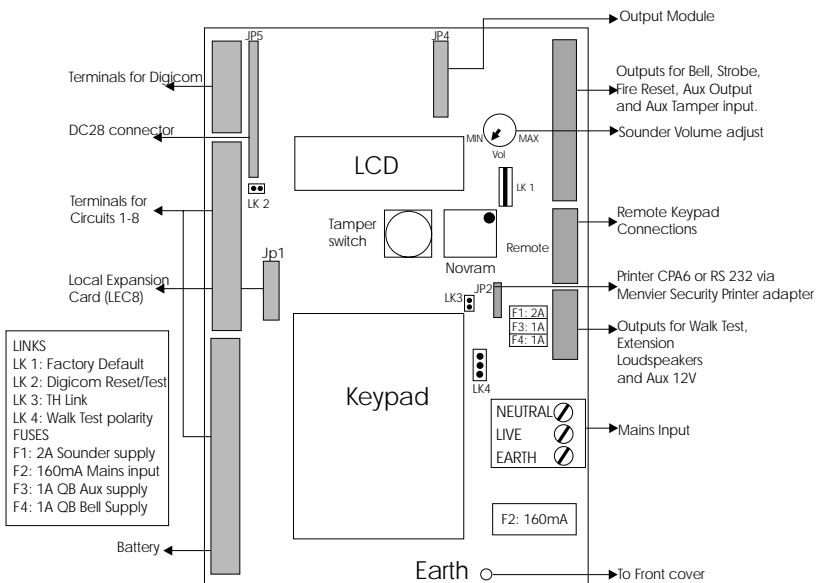

Fig 2 Main PCB Layout
- (2) Fit the connector supplied by connecting it between JPI on the LEC8 and JPI on the Control Panel main PCB (Fig 2);